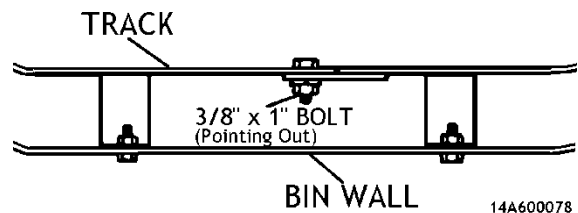

Figure 5 - Top View of Track Splice
A5 Mount remaining track sections using steps A2-A4, joining track sections together with 3/8" x 1" bolt and 3/8" lockwasher and nut. Tighten using 9/16" wrench. **Figure 5.**
- B4 Mount remaining track sections using steps B2-B3, joining track sections together with 3/8" x 1" bolt and 3/8" lockwasher and nut. Tighten using 9/16" wrench. **Figure 5.**
- C6 Mount remaining track sections using steps C2-C5, joining track sections together with 3/8" x 1" bolts and 3/8" lockwashers and nuts. Tighten using 9/16" wrench. **Figure 5.**